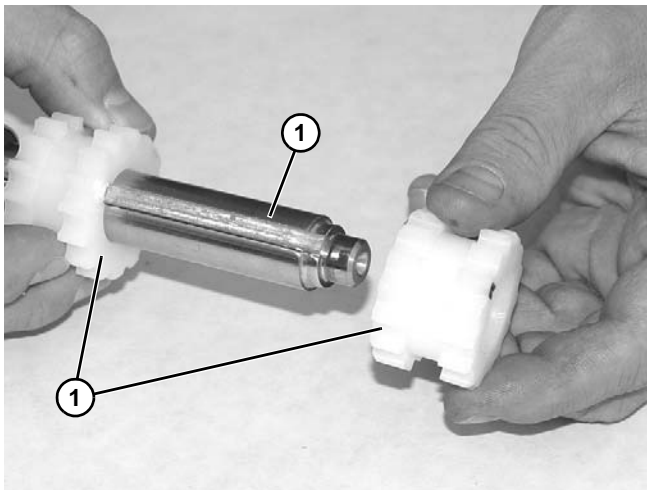

Figure 42
1. Install required quantity of sprockets (**Figure 42, item 1**) onto drive pulley (**Figure 42, item 2**).